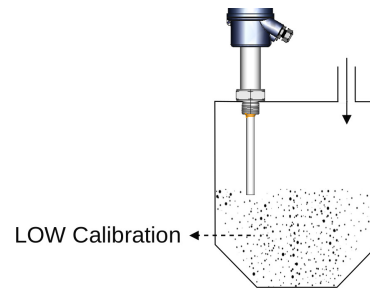

Figure 16: Low Calibration
- Low Calibration** For Low Calibration, fill the tank with the application material such that it touches the tip of Casper's probe as shown in Figure 16 and follow the instructions given in the section Calibration for Non-conductive Material.